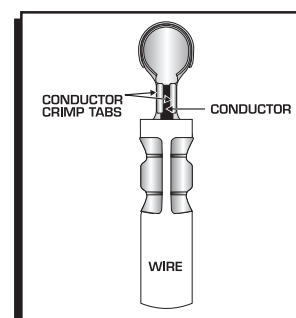

Figure 5 Installing the Terminal.
4. Position the wire in the terminal until the insulation sleeve is about 1/8" beyond its crimping tabs. Position the conductor between the conductor crimps and use a pair of needle nose pliers to crimp the tabs tightly against the conductor (Figure 5). Make sure the conductor does not slide out and **do not overtighten**.